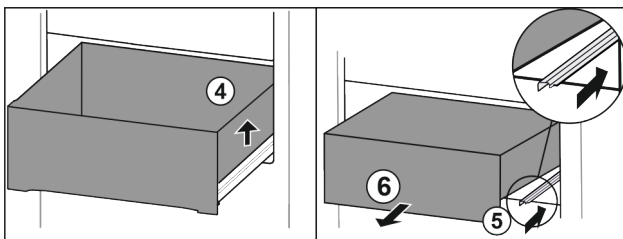

Fig. 185
- ▶ Lift drawer on the right. Fig. 185 (4)
- ▶ Insert right rail. Fig. 185 (5)
- ▶ Remove drawer to the front. Fig. 185 (6)